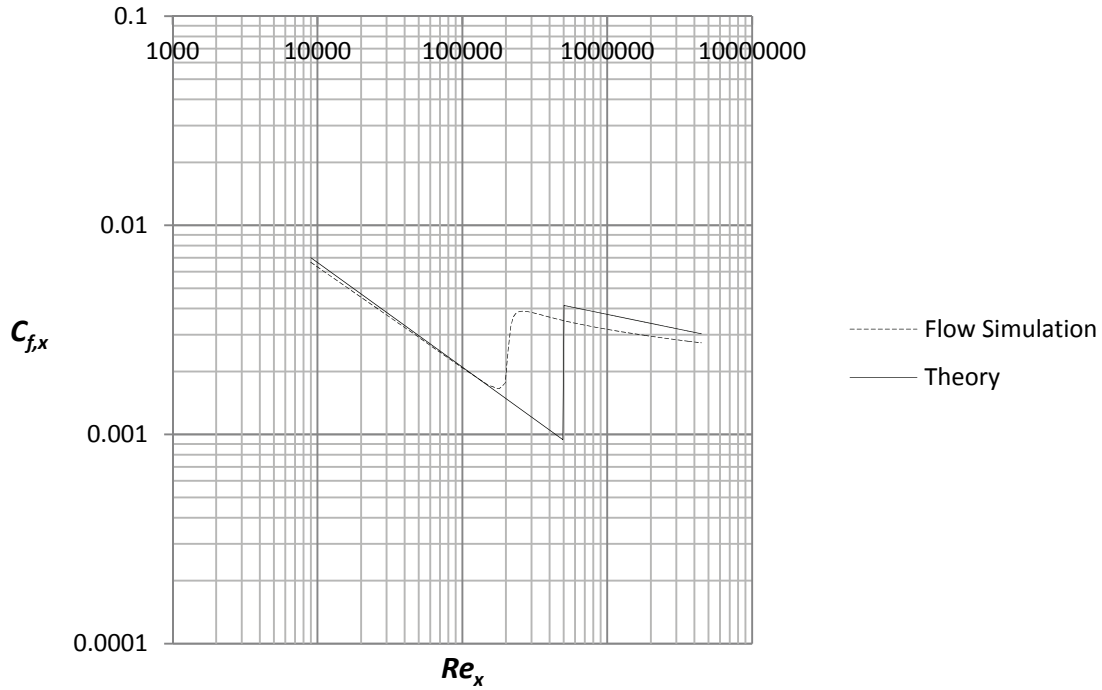

Figure 2.32 A comparison between Flow Simulation (dashed line) and theoretical laminar and empirical turbulent friction coefficients
34. Place the file “xy-plot figure 2.32” into the **Local Disk (C:)/Program Files /SolidWorks Corp/SolidWorks Flow Simulation/lang/english/template/XY-Plots** folder to make it available in the **Template** list. Repeat step 24 and choose the sketch  $x = 0 - 0.9$  m, uncheck the box for **Velocity (X)** and check the box for **Shear Stress**. Rename the xy-plot to **Local Friction Coefficient for Laminar and Turbulent Boundary Layer**. An Excel file will open with figure 2.32. Figure 2.32 is showing the Flow Simulation is able to capture the local friction coefficient in the laminar region in the Reynolds number range 10,000 – 200,000. At  $Re = 200,000$  there is an abrupt increase in the friction coefficient caused by laminar to turbulent transition. In the turbulent region the friction coefficient is decreasing again but the local friction coefficient from Flow Simulation is significantly lower than empirical data.